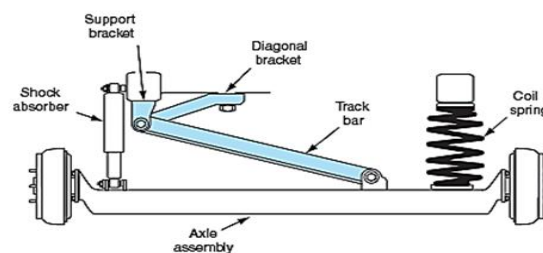

Figure 3: Illustrates Semi-Independent Suspension.
3. **Semi-Independent Suspension:** A suspension system known as semi-independent suspension combines features of independent and dependent suspensions. The wheels on an axle are connected to a common beam or torsion bar in a semi-independent suspension configuration, but they nevertheless move to some extent independently. This design offers a balance between the simplicity of a dependent suspension and the superior handling of an independent suspension by allowing just a small amount of vertical movement for each wheel. Torsion beam or twist beam designs, where each wheel has its own torsion bar or spring element coupled to a shared beam, are frequently used in semi-independent suspensions. Compared to a solid axle, this system gives better ride comfort and stability, but it could not offer as much handling and flexibility as a completely independent suspension. Compact automobiles and certain mid-sized cars frequently use semi-independent suspensions, which strike a compromise between affordability, simplicity, and acceptable performance under normal driving circumstances. The following Figure 3 shows a diagram of semi-independent suspensions.